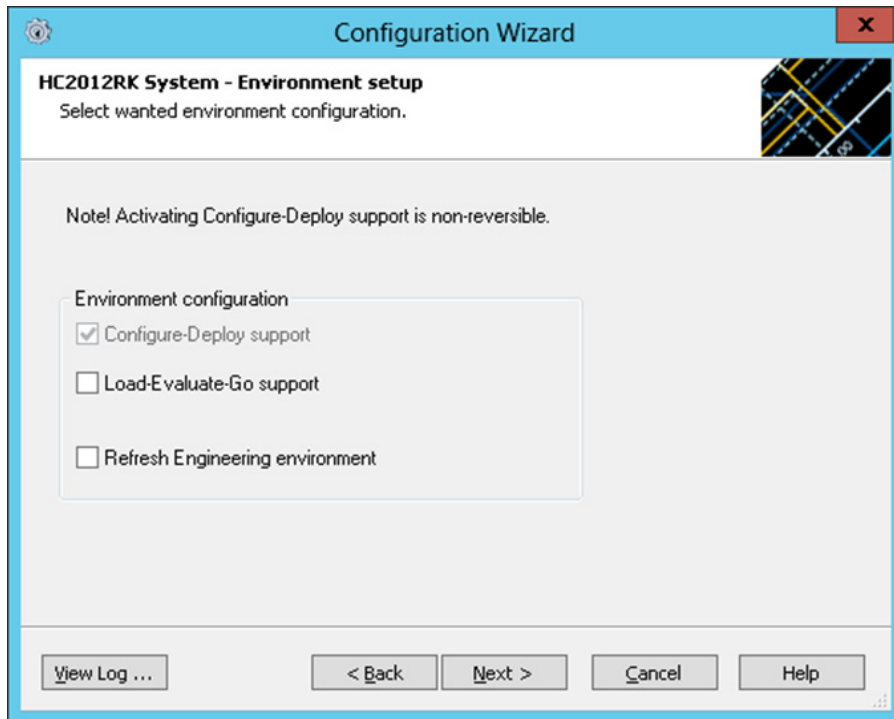

Figure 51. Configure-Deploy Support
2. Select **Configure-Deploy support** option and then click **Next** as shown in Figure 51.